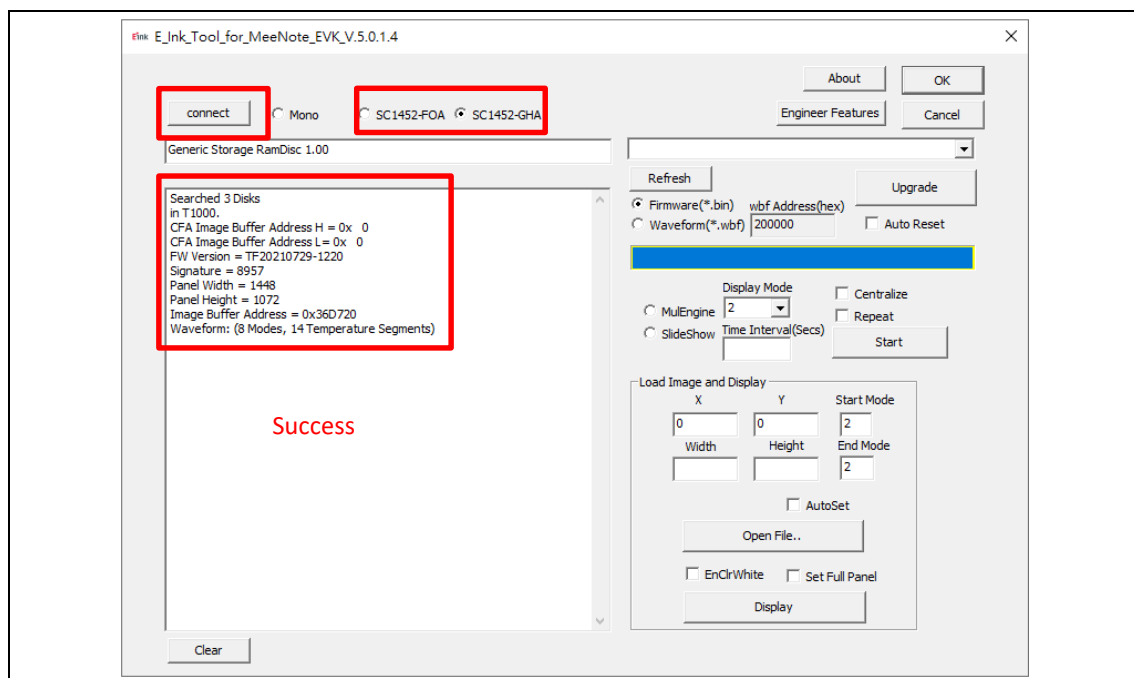

Figure 3.1
- Execute the "E_Ink_Tool_for_MeeNote_EVK_V5.0.1.4.exe" software select SC1452-FOA /SC1452-GHA and click the "connect" button to ensure that the software is successfully connected to the physical drive (refer to Figure 3.1)